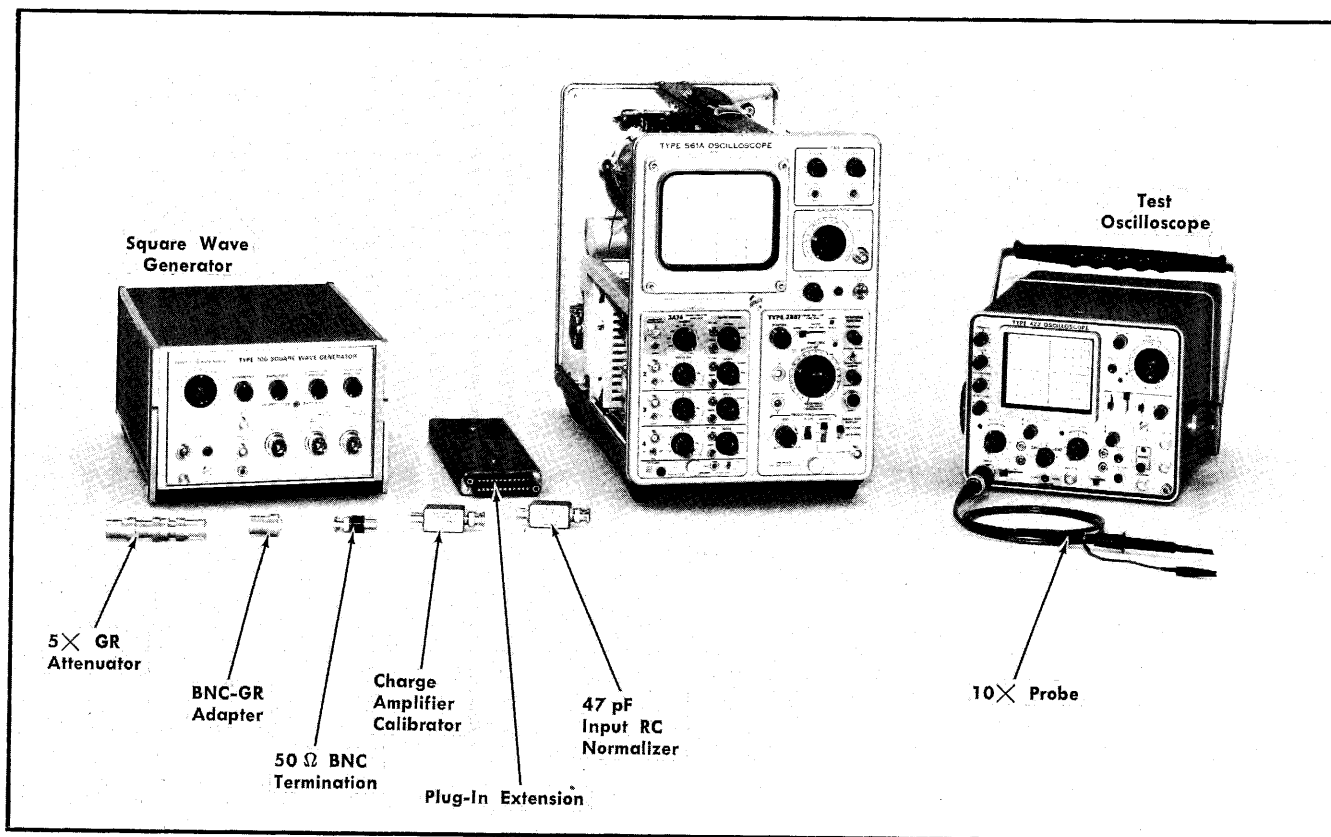

Fig. 5-11. Equipment arrangement for steps 13 through 22.
a. The preliminary control setup applies, except that all four channel MODE switches are at INV, the 2B67 TIME/DIV switch is at $1 \mu\text{s}$ and the (TRIGGERING LEVEL control is at AUTO. The equipment arrangement appears in Fig. 5-11.